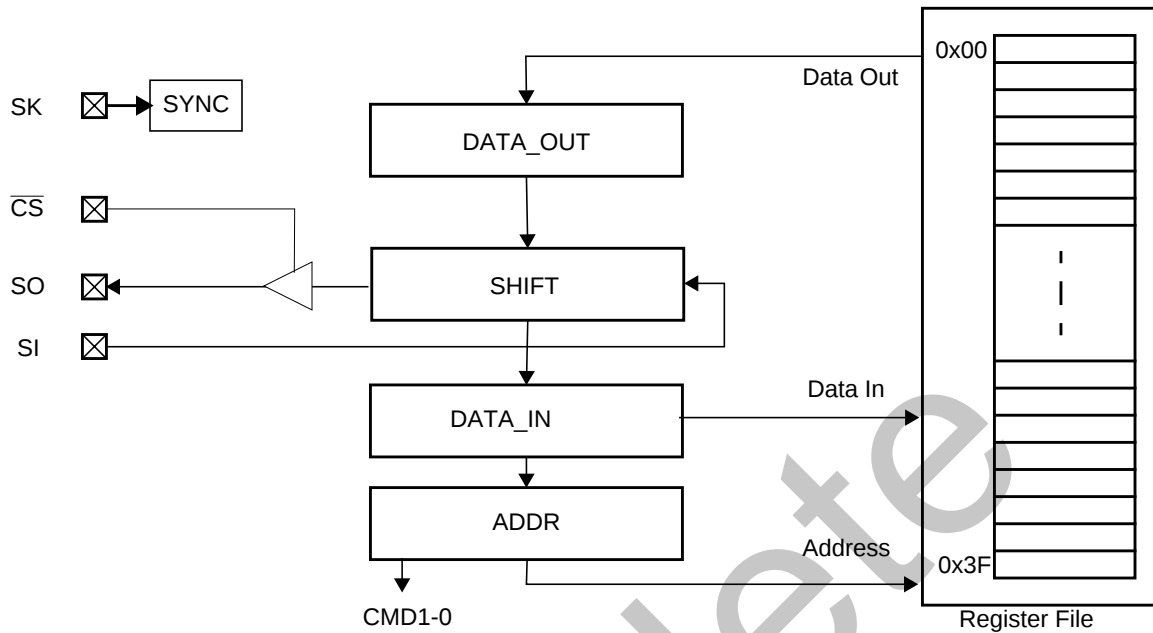

Figure 14. MICROWIRE/PLUS Interface Block Diagram
The MICROWIRE/PLUS interface allows the device to function as a CPU or microcontroller peripheral via a serial interface. This mode is selected by pulling the MODE1 pin high and the MODE0 pin low. The MICROWIRE/PLUS mode uses the chip select ($\overline{CS}$), serial clock (SK), serial data in (SI) and serial data out (SO) pins, as shown in Figure 14.